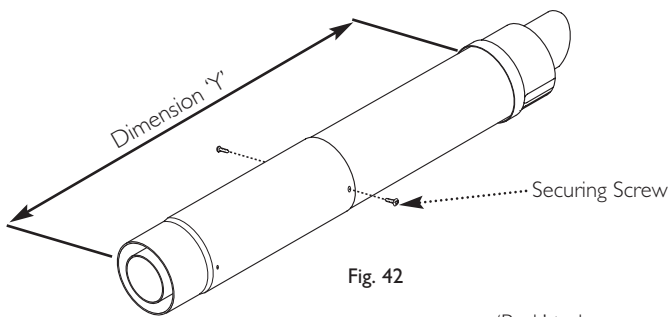
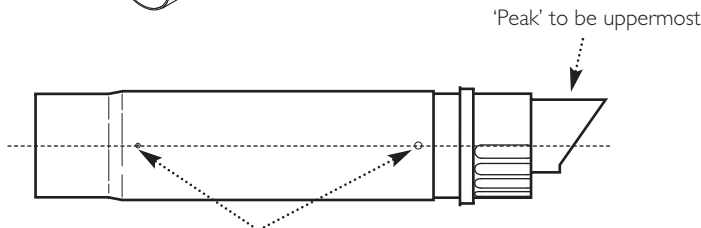
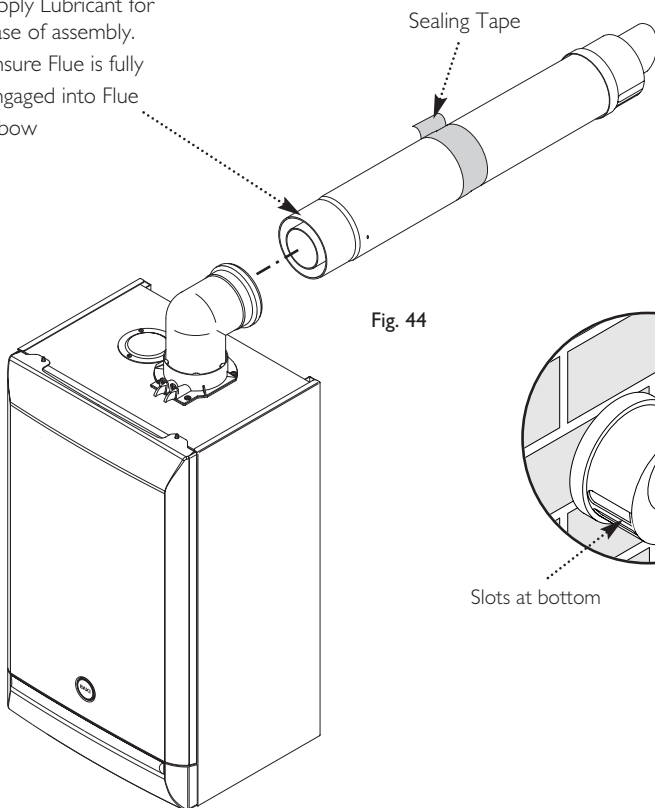

Fig. 42
Fig. 43
Fig. 44
8. Adjust the two telescopic sections to dimension 'Y' (Fig. 42). Ensure that the rivets and holes in the Connection Assembly are aligned horizontally (Fig. 43).
9. Using a 2mm bit, drill through the holes at the end of the Connection Assembly into the Terminal Assembly and secure them together using the screws supplied (Fig. 42). Seal the joint with the tape provided (Fig. 44).
11. Draw the flue back through the wall and engage it in the elbow. It may be necessary to use soap solution or similar to ease assembly of the elbow adaptor and flue (Fig. 44).